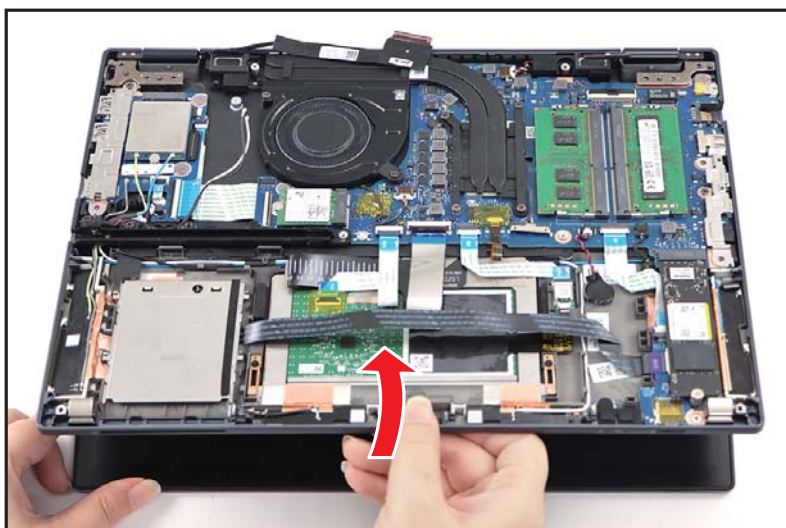

Figure 1-22. LCD Module Removal
6. Lift the top assembly until it is fully open (Figure 1-22).